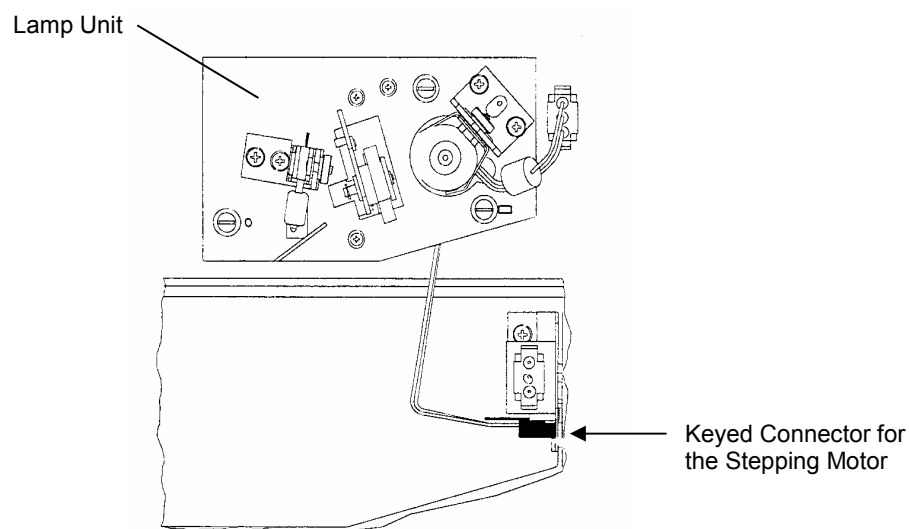

Figure 23 Stepping motor connector
8. Disconnect the stepping motor connector, as shown in Figure 23.